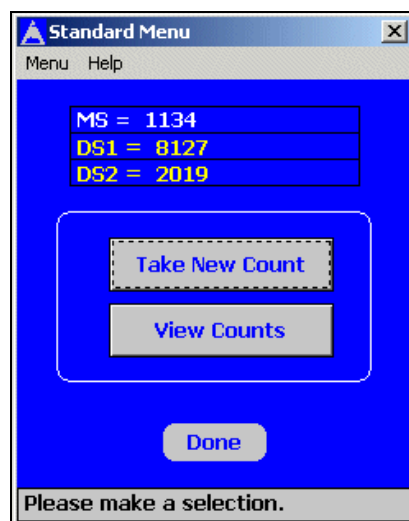

Figure 4–35. Standard Menu
19. Click the **<Standard Count>** button on the RoadReader Plus main menu. The **Standard Menu** (see Figure 4–35) is displayed.